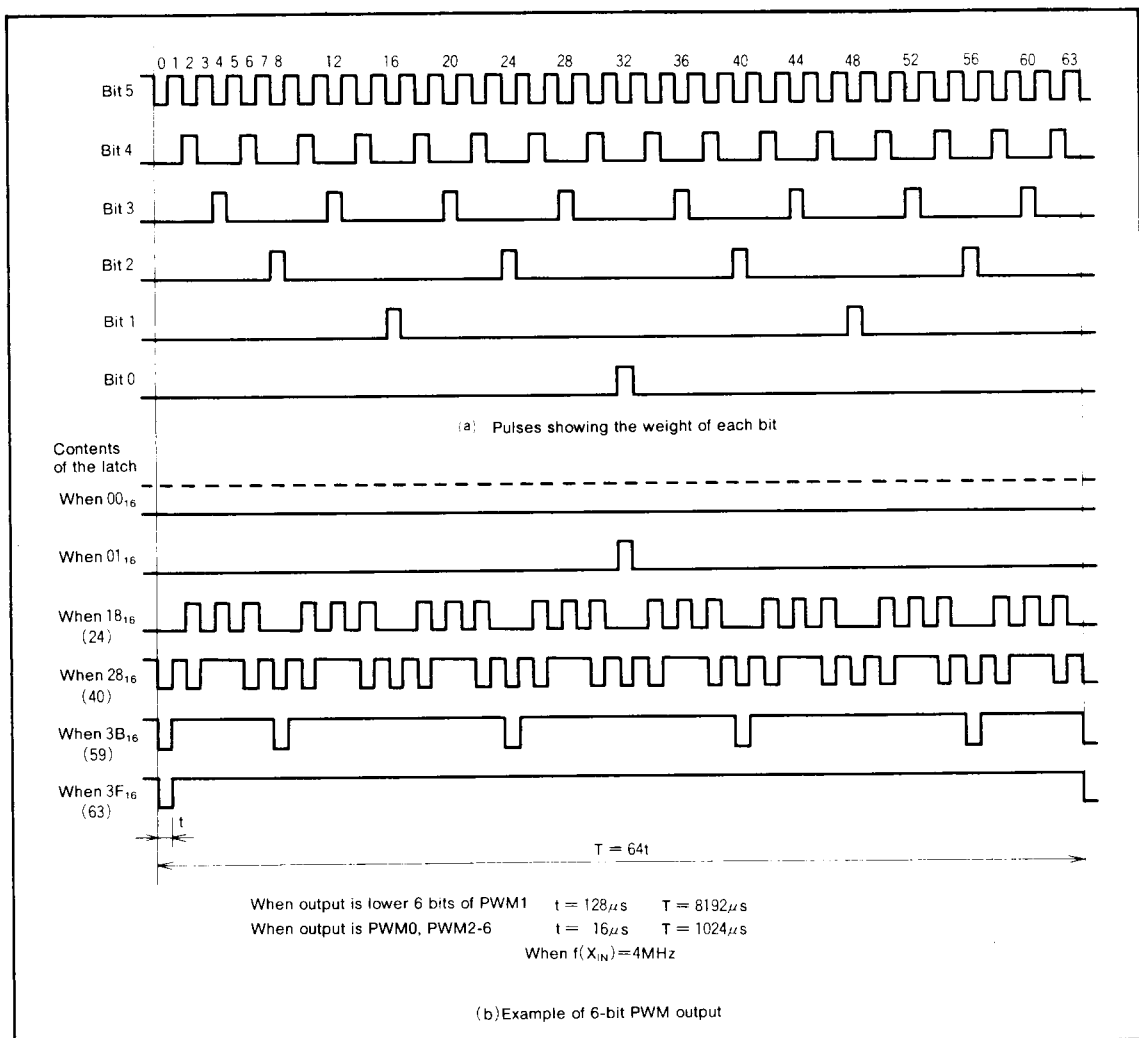

Fig. 14 6-bit PWM timing diagram
(4) Operation of the 6-bit PWMs
The timing diagram of the two 6-bit PWMs (PWM0 and PWM2-6) is shown in Figure 14. One period (T) is composed of 64 (2^6) segments.
There are six different pulse types configured from bits 0 to 5 representing the significance of each bit. These are output within one period in the circuit internal section. Refer to Figure 14 (a).
Six different pulses can be output from the PWM. These can be selected by bits 0 through 5. Depending on the content of the 6-bit PWM latch, pulses from 5 to 0 is selected. The PWM output is the difference of the sum of each of these pulses. Several examples are shown in Figure 14 (b). Changes in the contents of the PWM latch allows the selection of 64 lengths of high-level area outputs varying from 0/64 to 63/64. An length of entirely high-level output cannot be output. i.e. 64/64.